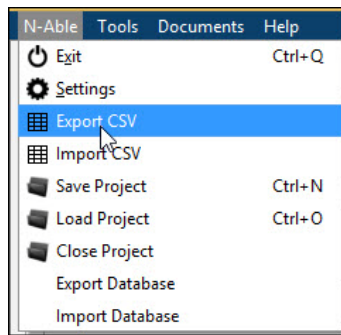

FIG. 10 EXPORT CSV FILE
2. From N-Able's main menu bar, select **N-Able > Export CSV**. See Figure 10.